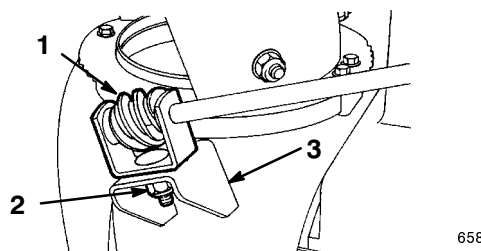

Figure 11
2. Apply No. 2 general purpose grease to the worm gear (Fig. 11).
3. Loosely mount the worm gear and the bracket to the mounting flange with a bolt, a pyramidal washer, and a locknut (Fig. 11).
4. Slide the worm gear into the teeth of the chute retaining ring and tighten the locknut (Fig. 11).